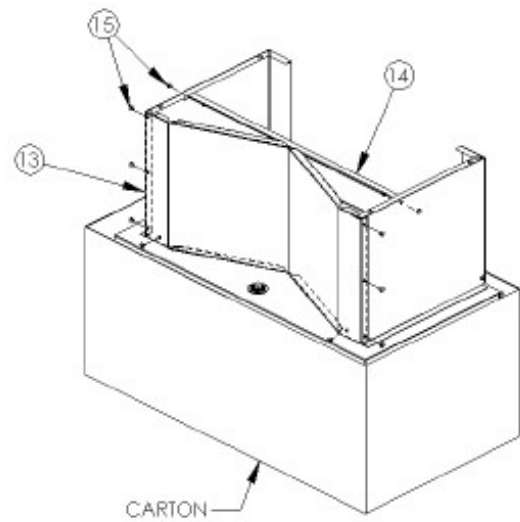

Figure 2
- Place the front panel on to the base ends and insert remaining bolts. See figure 2.